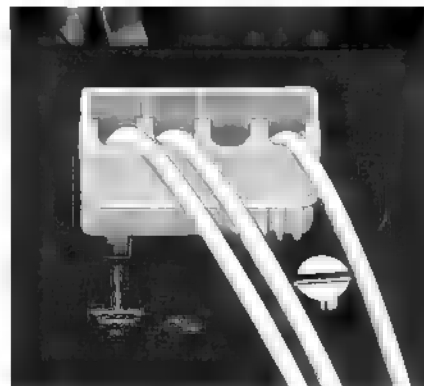

Fig. 3
B. No. 209 458, AMP-No. 42 859/1 (fig. 3)